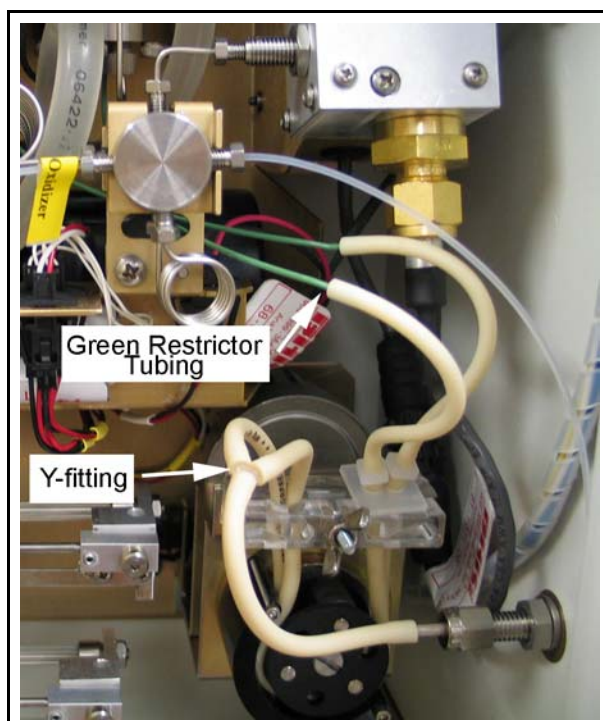

Figure 43: Preparing to Back Flush the Sample Side Fluidics
3. The first task is to test the sample side for an obstruction. Disconnect the two pieces of sample pump tubing from the Y-fitting (see Figure 43).